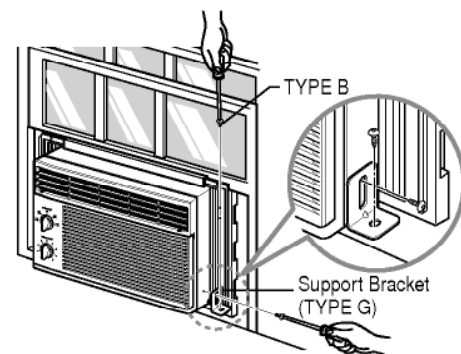

Figure 32
- b. Fasten the suport bracket (TYPE G) using a removed screw. Attach the suport bracket (TYPE G) in the inner window sill with a screw (TYPE B), as shown Figure. 32.